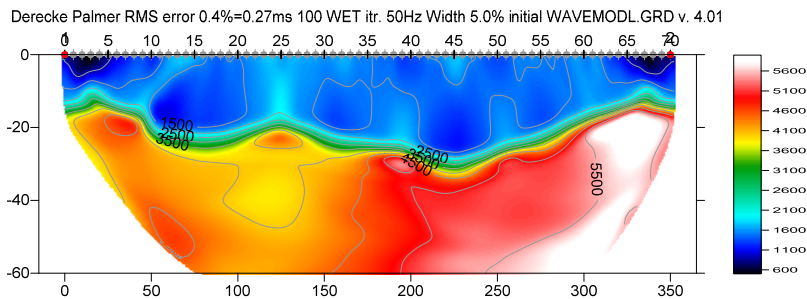

Fig. 6 : 100 WET iterations, starting model Fig. 4, WDV@300Hz. Minimal WET smoothing, smooth nth=5 (Fig. 11).
Compare Fig. 6 with Derecke Palmer 1980. The Generalized Reciprocal Method Of Seismic Refraction Interpretation. Society of Exploration Geophysicists, Tulsa. ISBN 0-931830-14-1 : Fig. 4 on page 17.
Here is the LAYRTOMO subdirectory archive for Fig. 6 with **WAVEMODL.GRD** starting model and WET inversion results : http://rayfract.com/tutorials/LAYRTOMO_WDVS@300Hz_Mar6_2021.rar
Here is the profile database archive for Fig. 6 :
Next we try to improve accuracy of velocity imaging directly below the two shot points. Here the weathering velocity is too low and the basement gets pulled up to much (Fig. 6).
- click button *Start tomography processing* to obtain Fig. 13. Compare with Fig. 6.
- note the more realistic velocity imaging below shot points in Fig. 13 compared with Fig. 6
- also note the 50% smaller *RMS error* on top of Fig. 13 compared with Fig. 6
Fig. 13 : same as Fig. 6 but with inline offset for shot pos. 1 shifted by -15m and shot pos. 2 shifted by 15m (Fig. 15). Compare with Fig. 6 replicated below. Note the improved velocity imaging directly below the two shot points.
Fig. 13 : same as Fig. 6 but with inline offset for shot pos. 1 shifted by -15m and shot pos. 2 shifted by 15m (Fig. 15). WDVS enabled @300Hz (Fig. 10). WET parameters shown in Fig. 11.